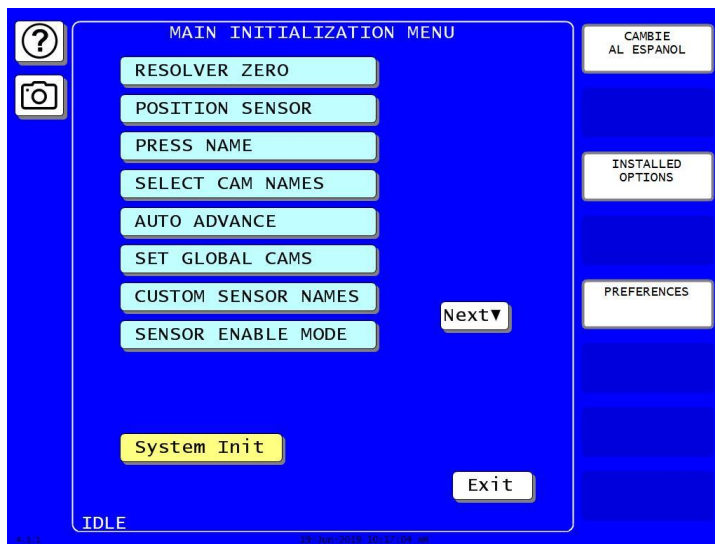

Figure 8. Main Initialization Menu
4. Select NEXT on the side of the Main Initialization Menu (see Figure 8).